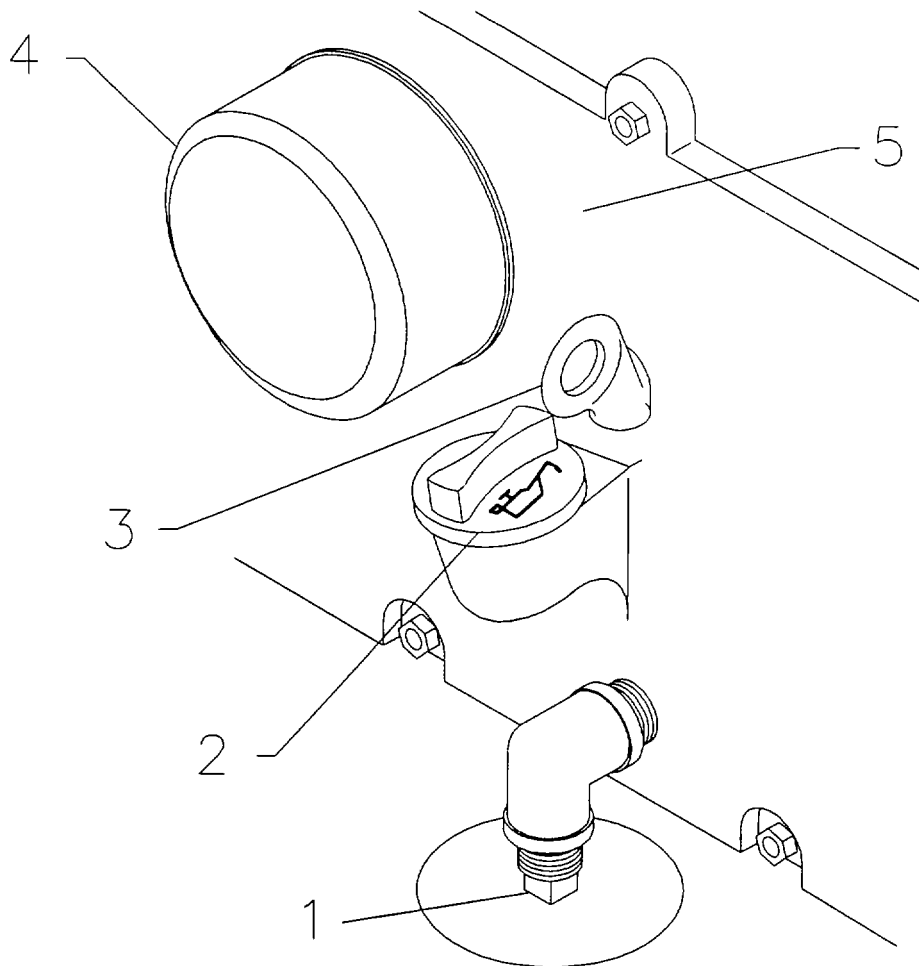

Figure 4-1. Engine Oil and Filter Change.
a. Checking oil level. Refer to figure 4-1.
- 1) Remove dipstick (3), wipe clean then reinsert.
- 2) Remove dipstick (3) again. Oil level should be between marks on dipstick. The distance between the marks represents 1.26 quarts/1 2 liters.
b. Oil draining. Refer to figure 4-1.
- 2) Remove the drain plug (1) allowing the oil to drain in to the container. Install the plug when all the oil has drained.
c. Filter removal. Refer to figure 4-1
- 1) The full flow oil filter (4) is a disposable spin-on cartridge type located on the left side of the engine crankcase. To remove the filter, turn filter counter clockwise using a band type filter wrench.
d. Filter installation. Refer to figure 4-1.
- 1) Apply thin coat of grease or oil to the rubber gasket on the new filter (4).
- 2) Turn the new filter clockwise on to the crankcase filter adapter until the rubber gasket just makes contact with the crankcase sealing face (5).
- 3) Turn the filter (4) clockwise on a further 1/4 to 1/2 turn.
e. Oil filling. Refer to figure 4-1.
- 1) Fill the engine with the correct grade of oil for the operating conditions. See Table 4-1 for oil grade selection. Add oil through the filler (2) to the full line on the dipstick (3). The engine oil capacity is 5.6 quarts/5.3 liters excluding the filter. The capacity between dipstick marks is 1.26 quarts/1.2 liters. The filter capacity is 0.49 pints/0.23 liters.